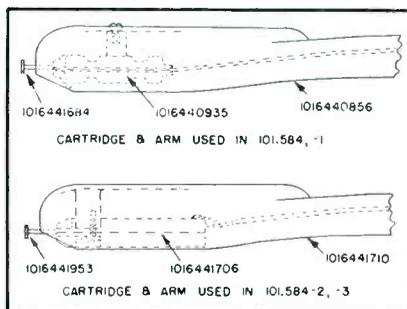

Fig. 1. Silvertone 6346, 6346A, 6446 employ two types of pickup cartridge which are not interchangeable.
**Service notes:** (Factory identification number 101.584-3.) Assemblies identified as 101.584-3 are the same as 101.584 except that they use a different tone arm and pickup cartridge, not interchangeable with the ones used in 101-584. The accompanying drawings illustrate the tone arms and cartridges used in 101.584-1,-2,-3. Be sure to give the proper part number and also mention the complete identification number including the dash number when ordering these parts. (See Fig. 1.)